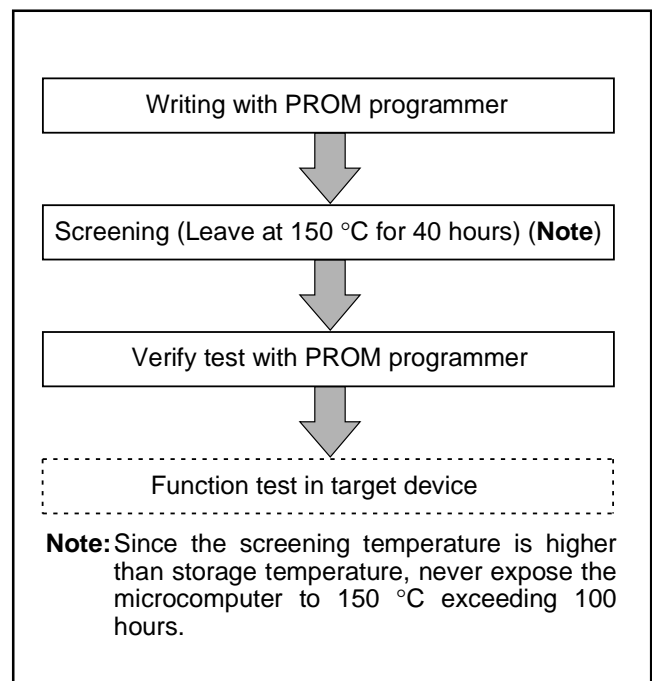

Fig. 51 Flow of writing and test of the product shipped in blank
(2) Notes on handling
- ① A high-voltage is used for writing. Take care that overvoltage is not applied. Take care especially at turning on the power.
- ② For the One Time PROM version shipped in blank, Mitsubishi Electric corp. does not perform PROM writing test and screening in the assembly process and following processes. In order to improve reliability after writing, performing writing and test according to the flow shown in Figure 51 before using is recommended (Products shipped in blank: PROM contents is not written in factory when shipped).